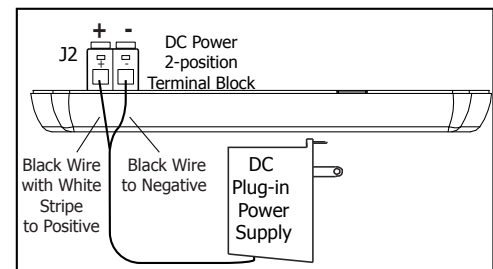

Figure 4: 1114 Side View
3. Wire the power supply to the J2 terminal block. Connect the Black wire with the White stripe to the positive terminal and the Black wire to the negative terminal. See Figure 4.